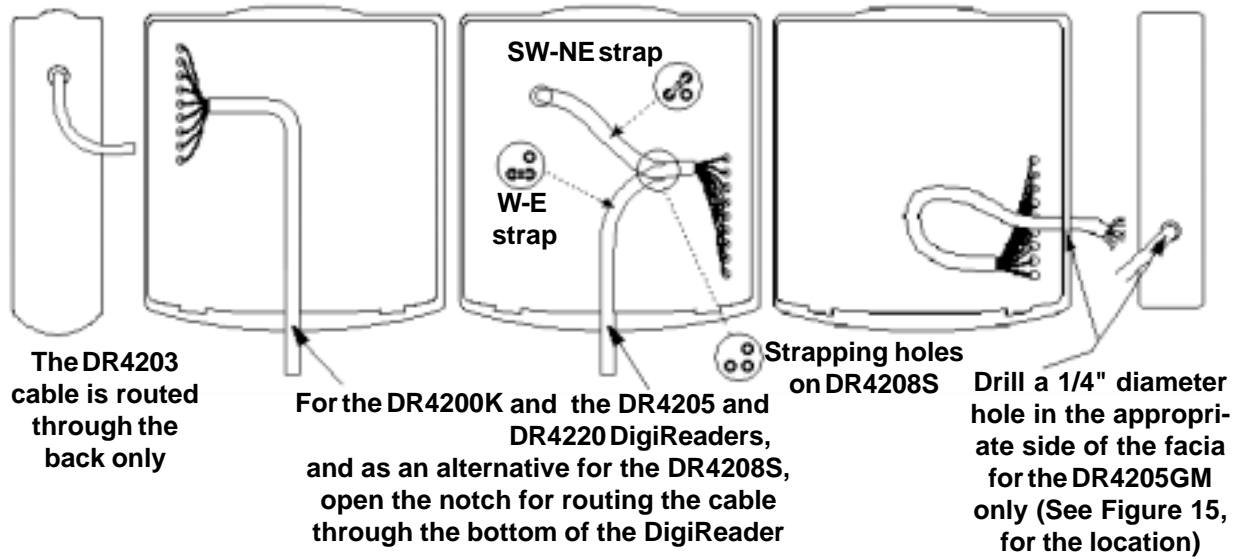

Figure 11: Cable Routing Configurations
1. The S-Net cable on the DigiReader may be routed from the back, bottom or the side of the DigiReader. The reader is pre-configured for cable installation through the back mounting plate. **Note:** S-Net cable is routed directly through the back on the DR4203, DR4208S, and DR4220, and, from the back, on the side on the DR4205GM DigiReader only. (See Figures 11 and 16, below), and on the back, through the gap made by removing the plastic notch on the DR4200K, DR4205, DR4205E, and DR4205K DigiReaders.
2. For the DR4200K, DR4205, DR4205E, and DR4205K DigiReaders, remove the plastic notch from the bottom of the cover. A rattail file may be used to enlarge the opening (Figure 11).